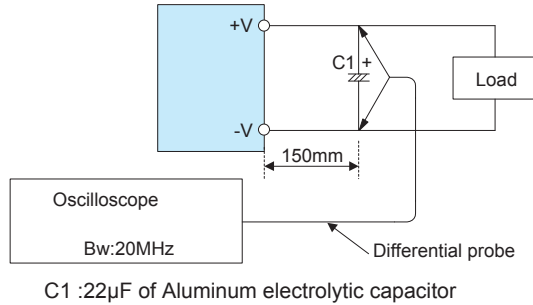

Fig.1.1 Measuring method for Ripple and Ripple Noise
■ The measuring method Fig.1.1 is recommended because the output ripple noise may be influenced by measurement environment.